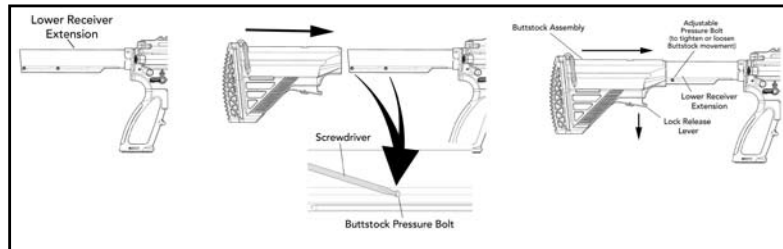

Fig. 50 – Buttstock reassembly
- Two small set screws are located on the bottom of the receiver extension (buffer tube). These set screws are provided to eliminate any play that may develop between the buttstock and the extension. The left hand side of the set screw features a detent surface that engages the buttstock. The right hand surface features a cut to accommodate a small straight slot screwdriver. Rotating the set screws clockwise will tighten the detents to the buttstock; rotating the setscrew counter clockwise will loosen the buttstock. Using a straight slot screwdriver, rotate the set screws clockwise using quarter turns and adjust until the detents engage the buttstock but do not hinder removal or installation (Fig. 50)